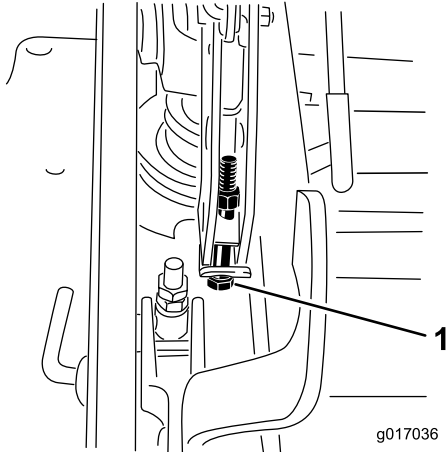

Figure 97
14. If the deck is too low, tighten the single point adjustment bolt by rotating it clockwise. If the deck is too high, loosen the single point adjustment bolt by rotating it counterclockwise (Figure 97).